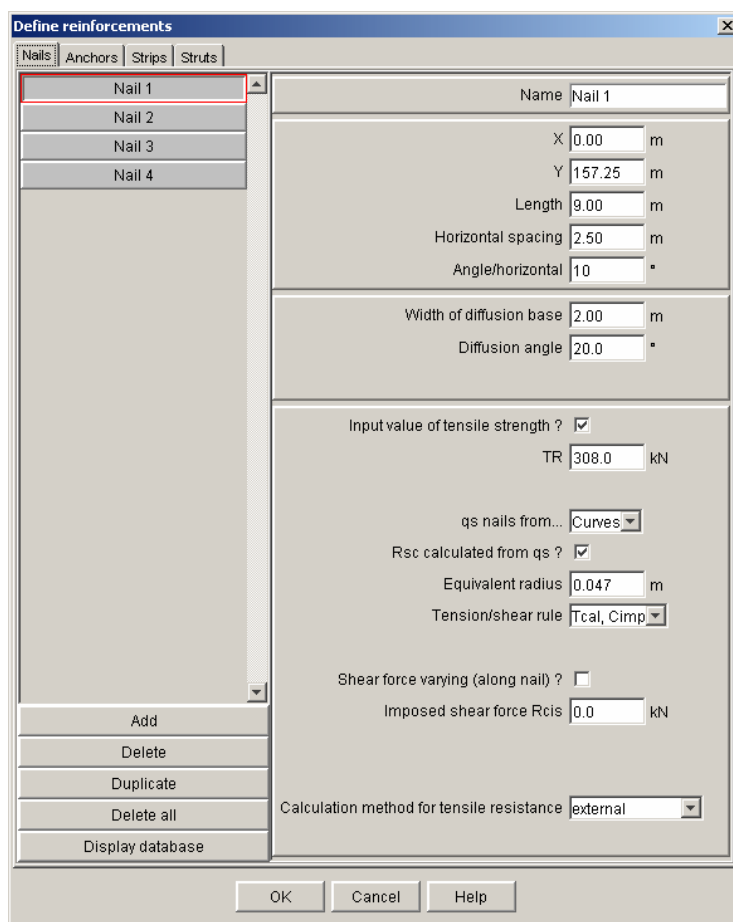

Figure 41: reinforcements dialogue box: tab 1 (nails)
- **Input value of tensile strength (TR):** this check box indicates whether the TR value (tensile strength of the nail)
- Is directly input as a data (force): Figure 41,
- must be calculated based on the equivalent radius (drilling or grouting radius in m, used for the calculation of the grout perimeter) and $q_{s_{\text{nails}}}$ (defined for each soil layer, refer to chapter 4.6): Figure 41 (this first choice is the default option),
⇒ If reinforcement mode is ($T_{\text{cal}}, C_{\text{imp}}$) (Figure 41), it is necessary to provide the following data: